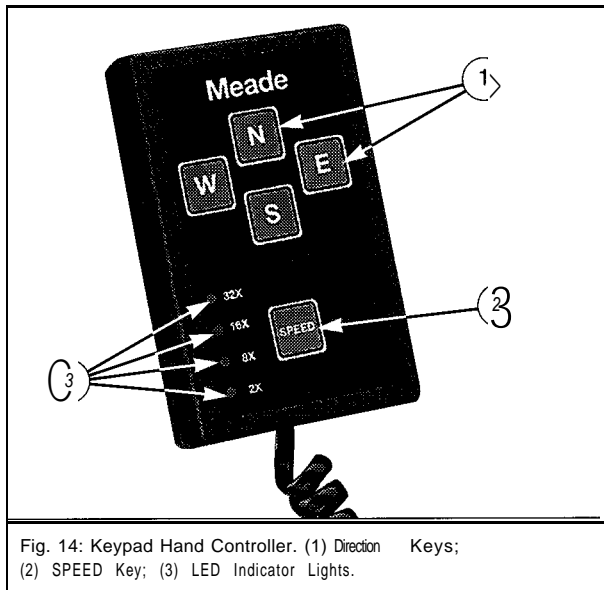

Fig. 14: Keypad Hand Controller. (1) Direction Keys; (2) SPEED Key; (3) LED Indicator Lights.
When the LX50 is first powered up, the four LEDs (3), Fig. 14, on the Keypad Hand Controller will light up four times in rapid succession, indicating the telescope is performing its self diagnostic test. The circuits and logic are tested and if any faults are found, the LED's will continue to circulate. If no faults are found, the LED next to 32x will remain illuminated.
Direction Keys: Four keys, labeled N, S, E, and W on the hand controller (1), Fig. 14, are used to move, or microslow, the telescope in a specific direction. When pressing a direction key, the only feedback is the motion of the telescope.
Speed Key: The **SPEED** key (2), Fig. 14, is used to adjust the speed at which the telescope moves when pressing one of the direction keys. The current speed will be indicated by one of four LEDs located next to the **SPEED** key. An illuminated LED indicates the current speed. Pressing the **SPEED** key will cycle